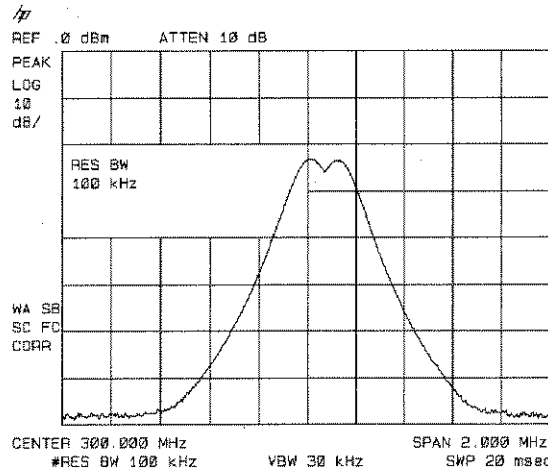

Figure 3-2. Resolving Signals of Equal Amplitude
Generally, to resolve two signals of equal amplitude, the resolution bandwidth must be less than or equal to the frequency separation of the two signals. If the bandwidth is equal to the separation a dip of approximately 3 dB is seen between the peaks of the two equal signals, and it is clear that more than one signal is present. See Figure 3-2.
- 4. Since the resolution bandwidth must be less than or equal to the frequency separation of the two signals, a resolution bandwidth of 100 kHz must be used. Change the resolution bandwidth to 100 kHz by pressing **(BW) 100 (kHz)**. Two signals are now visible as in Figure 3-2. Use the knob or step keys to further reduce the resolution bandwidth and better resolve the signals.